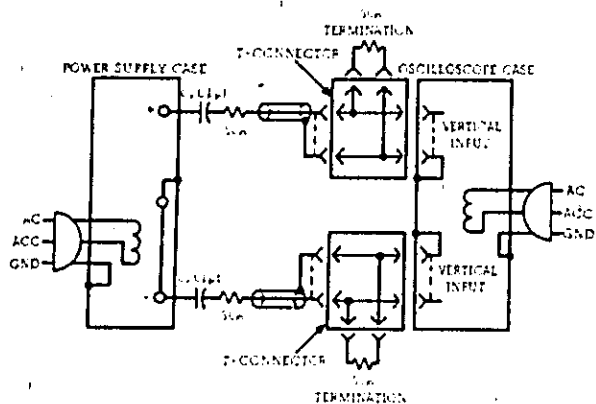

Figure 5-7. CV Noise Spike Test Setup
- As shown in Figure 5-7, two coax cables, must be substituted for the shielded two-wire cable.
5-30 The circuit of Figure 5-7 can also be used for the normal measurement of low frequency ripple and noise; simply remove the four terminating resistors and the blocking capacitors and substitute a higher gain vertical plug-in in place of the wide-band plug-in required for spike measurements. Notice that with these changes, Figure 5-7 becomes a two-cable version of Figure 5-6C.